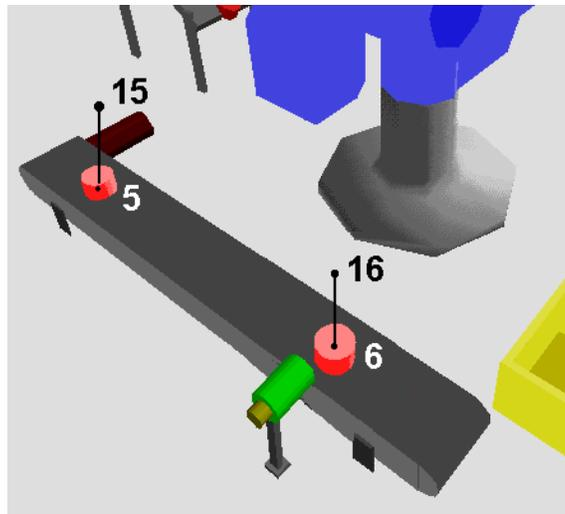

Figure 14-2
- 11 Manipulate the robot so the part will be at position #5, as shown in Figure 14-2.